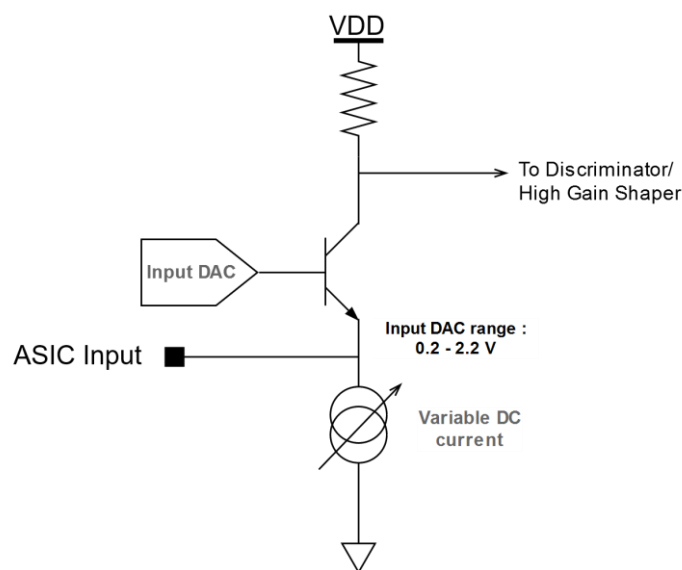

Figure 7 - Pre-amplifier structure
At the input of the ASIC, its DC level can be adjusted by a DAC (Refer to Figure 7 – Input DAC) for each channel. This DAC can be used to trim the high voltage (HV) applied to the SiPM by either increasing (for negative HV) or decreasing (for positive HV) the effective value applied to each detector channel. This feature will allow user to adjust the detector gain non-uniformity especially when using the chip with SiPM array. The input DACs can be controlled through Slow Control registers (refer to Table 6) from bit #690 to #1255. The DAC input is binary-coded decimal on 8 bits and its electrical characteristics are the following:
User can also adjust the pre-amplifier bias current (Refer to Figure 7 – Variable DC current) which will alter the ASIC input impedance as well. This bias current is controlled via Slow Control bits #87 - #90. These Slow Control bits will change the current mirror ratio which biasing the pre-amp. The effective ratio can be calculated from division of the nominal value (0.3mA*200) by the sum of activated Slow Control bits suffix. For example if Slow Control bit #87 is active (`sw/swb_400 = '1'`), the suffix to be used in the calculation is 400 :